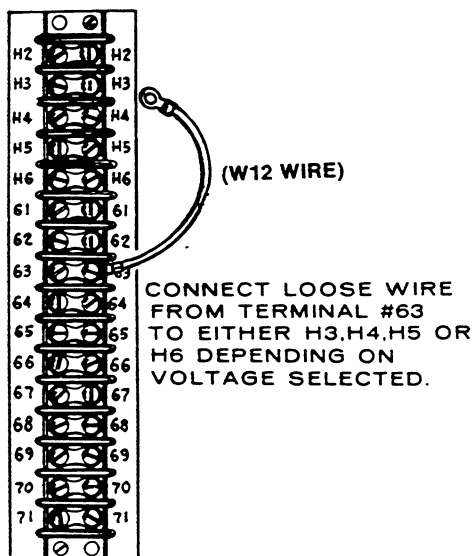

FIGURE 17. REFERENCE VOLTAGE CONNECTION (TB21)
3. Open hinged control panel doors. Connect lead from terminal 63 to correct terminal for voltage desired. These terminals are labeled H3, H4, H5 and H6. See Figure 17.